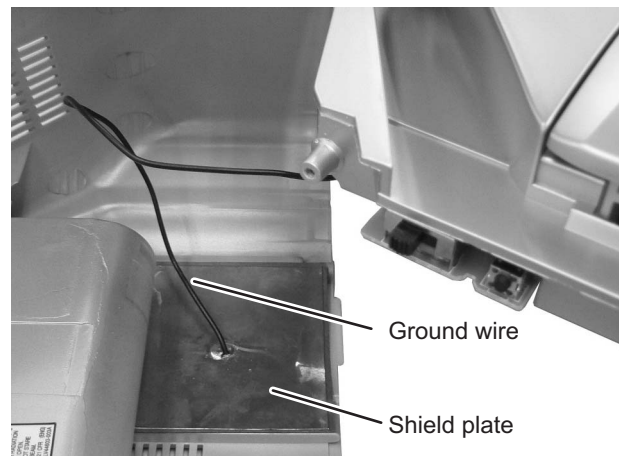

Fig.4
- (5) Remove the solder the grand wire from Tuner board soldered to shield plate. (See Fig.4)